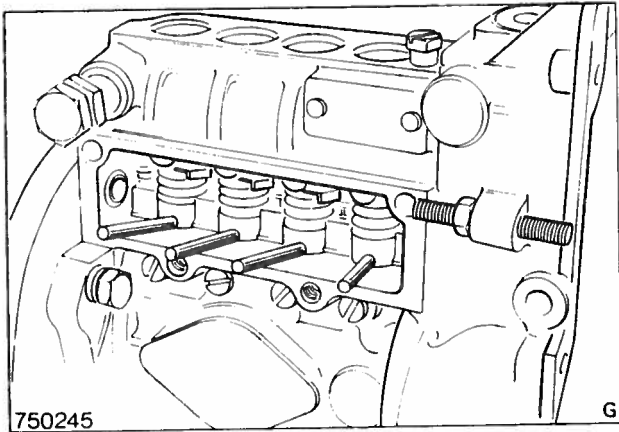

Fig. 50 Tappet holders with pins in position
10. Rotate the camshaft and, in the top dead centre position of each roller tappet, insert a tappet holder pin in the hole provided, Fig. 50.